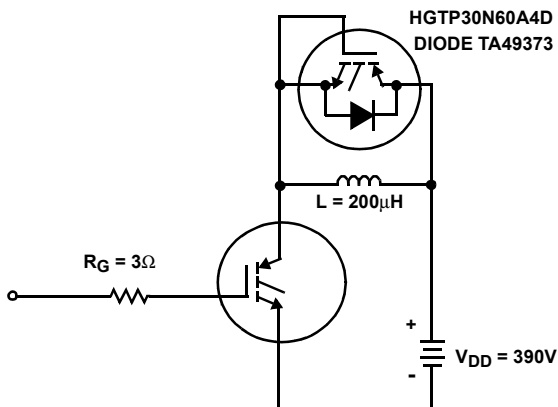

FIGURE 20. INDUCTIVE SWITCHING TEST CIRCUIT
- Values for two Turn-On loss conditions are shown for the convenience of the circuit designer.  $E_{ON1}$  is the turn-on loss of the IGBT only.  $E_{ON2}$  is the turn-on loss when a typical diode is used in the test circuit and the diode is at the same  $T_J$  as the IGBT. The diode type is specified in Figure 20.